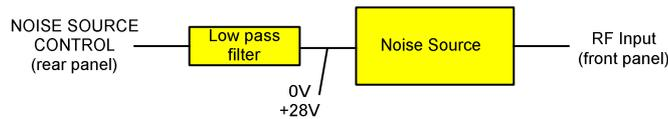

Fig. 2-29: Preparation for calibration
1. Connect the noise source to the RF input of the R&S ESL (see Fig. 2-29).
3. Provide the voltage supply for the noise source by connecting it to the +28 V connector of the R&S ESL (labeled NOISE SOURCE CONTROL on the rear panel of the instrument) via a coax cable and the lowpass filter. Connect the lowpass filter between the noise source itself and the NOISE SOURCE CONTROL connector of the R&S ESL as shown in Fig. 2-29.